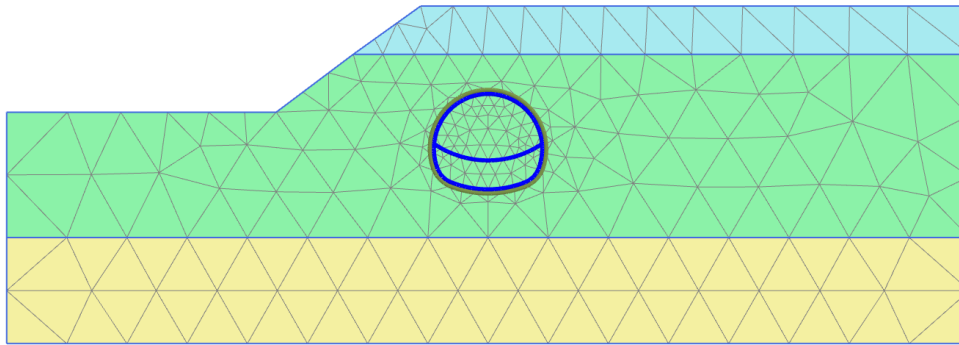

Figure 71: The generated mesh
- Click the **View mesh** button  to view the mesh as shown in Figure 71 (on page 98).